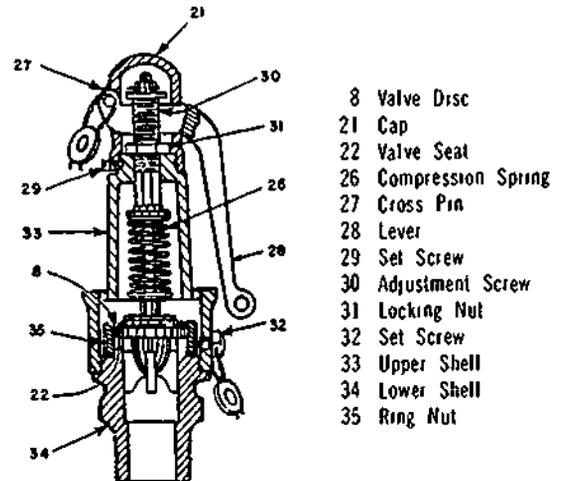

Figure 31-10. Safety Valve
97. *Safety Valves.* (Refer to Figure 31-10 in the accompanying appendix.) The safety valve is usually installed on top of the sterilizer and connected directly to the chamber jacket. If the pressure in the autoclave exceeds the pressure exerted by the compression spring (26), the valve will open and permit the steam to escape into the atmosphere. The safety valve is set to "pop off" between 150 and 170 kPa on a sterilizer operating at 140 kPa. On high-speed autoclaves operating at 190 kPa pressure, the safety valve is set to release at between 200 and 207 kPa.